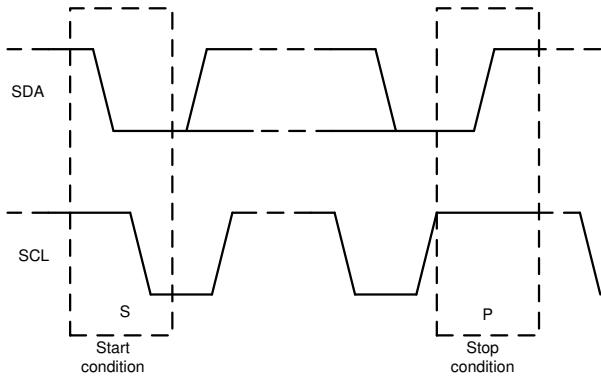

图 7-15. Start and Stop Conditions
1. The controller initiates data transfer by generating a start condition. The start condition is when a high-to-low transition occurs on the SDA line while SCL is high, as shown in 图 7-15. All I²C-compatible devices recognize a start condition.
4. To signal the end of the data transfer, the controller generates a stop condition by pulling the SDA line from low-to-high while the SCL line is high, as shown in 图 7-15. This action releases the bus and stops the communication link with the addressed target. All I²C-compatible devices recognize the stop condition. Upon receipt of a stop condition, the bus is released, and all target devices then wait for a start condition followed by a matching address.